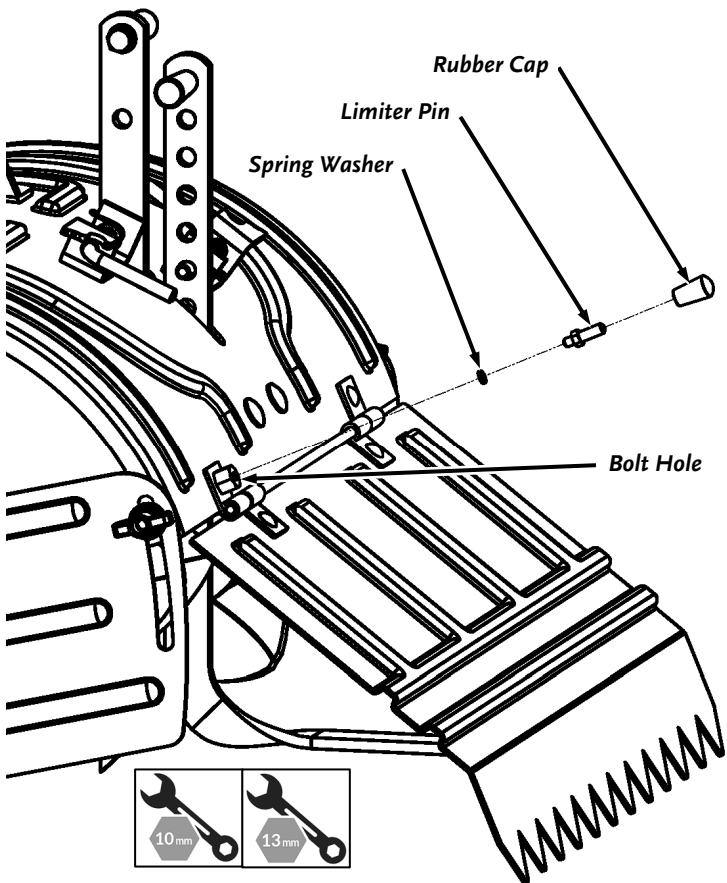

Figure 9
1. Screw the spring washer, limiter and rubber cap into the bolt hole in the back of blade cover. Hold the bolt hole in place with 13mm wrench while fastening the limiter bolt in with 10mm wrench. (See Figure 9)